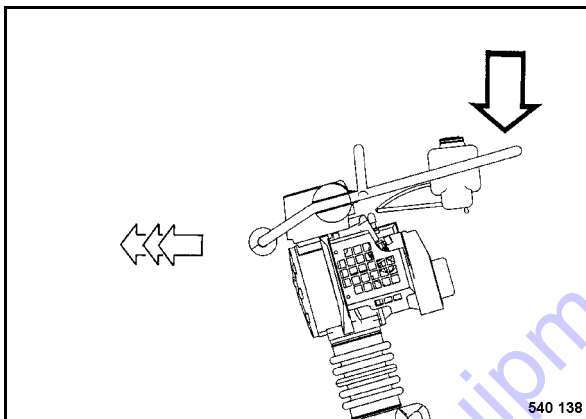

Fig. 20
- The travel speed can also be influenced by varying the pressing force on the steering bow (Fig. 20).